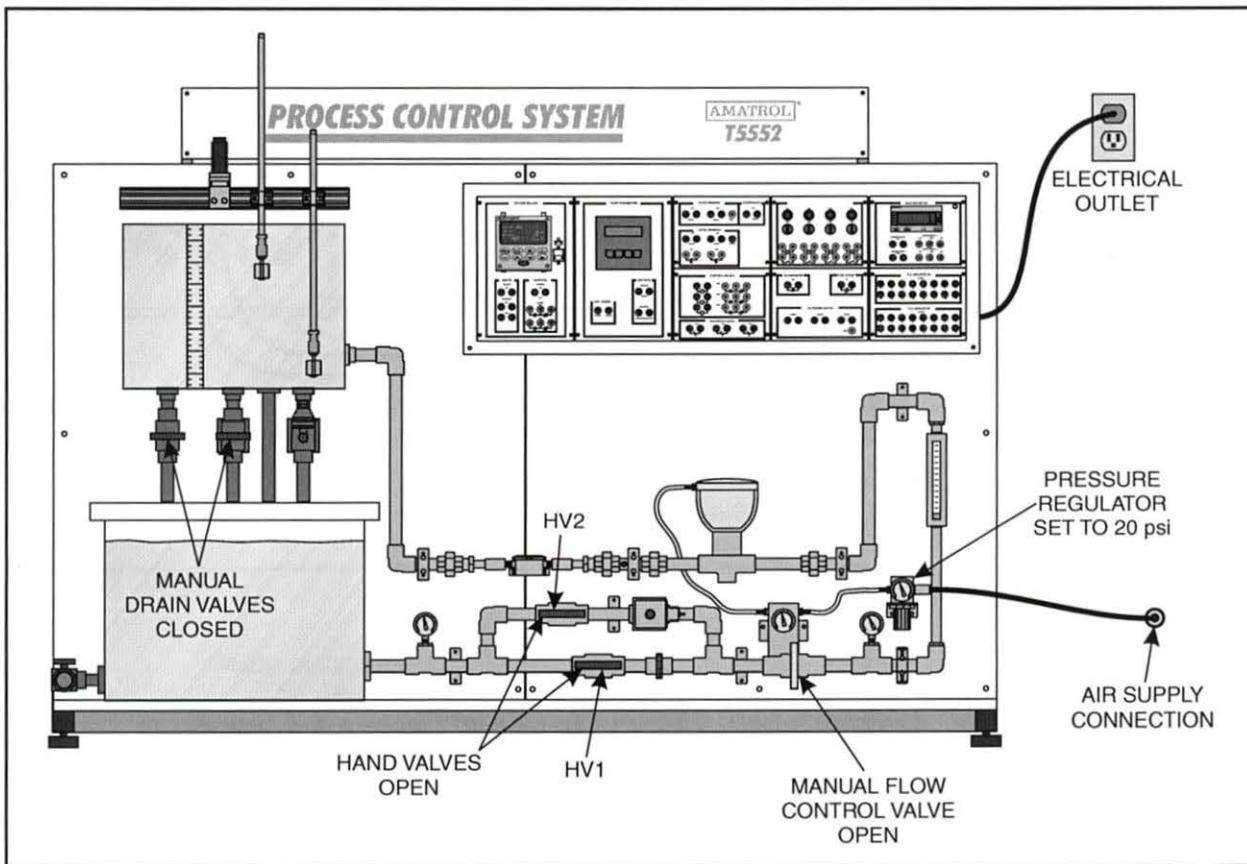

Figure 60. T5552 Setup
- 2. Perform the following substeps to set up the T5552, as shown in figure 60.